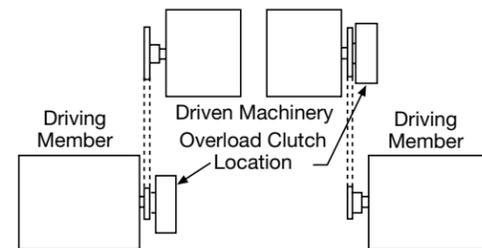

Figure 9
- Either location of the clutch shown in Figure 9 is preferred in indirect drive applications.